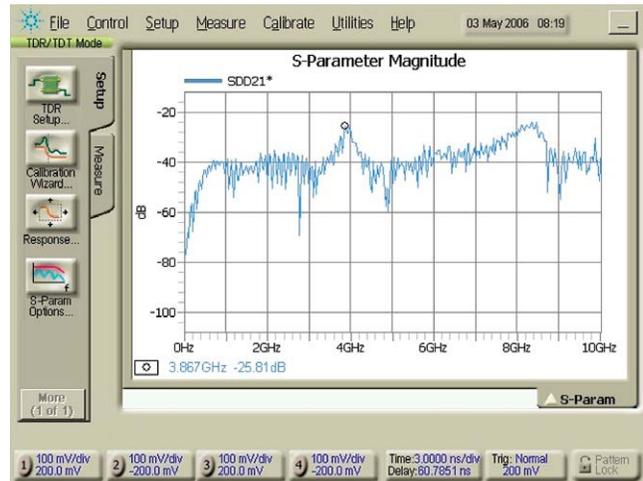

Figure 8. NEXT Frequency Domain
- Using a marker, find and record the maximum NEXT between 10 MHz and 4500 MHz. See Figure 8.